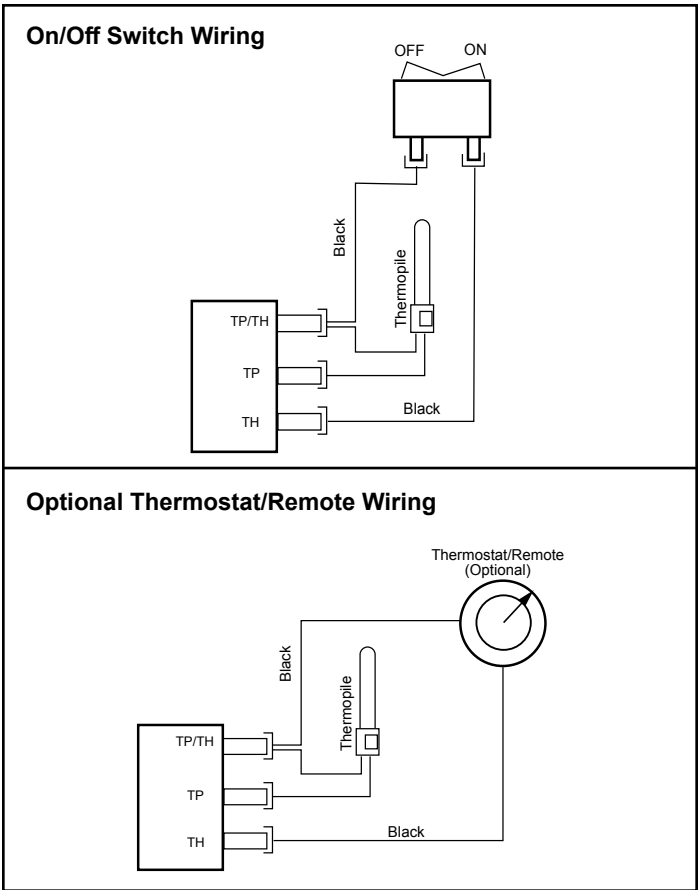

Figure 2.8 - ON/OFF switch and optional Thermostat/Remote wiring.
- 2. Connect the thermostat wires to the valve, Figure 2.8.